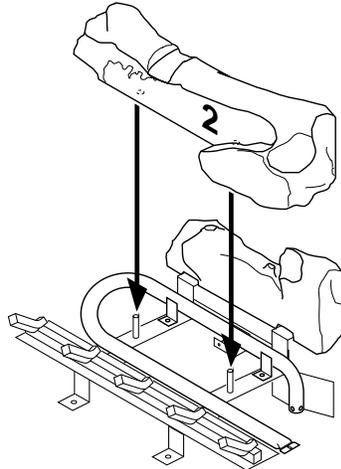

Figure 58 - Installing Log No. 2
2. Rest log #2 (large front log) on the pins on the front part of the grate (see Figure 58).